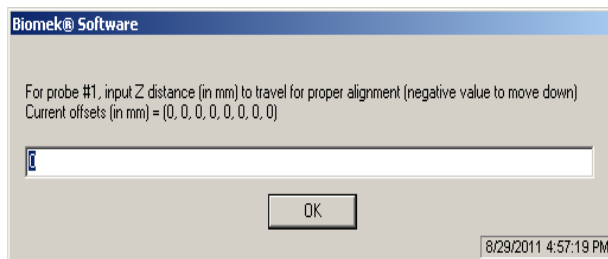

Figure 6. Moving the probe (in mm) up or down for proper alignment.
- 14 The next prompt that opens up (Figure 6) will allow the user to adjust the probe positioning with respect to the Magnabot surface (in mm), one probe at a time. Adjusts should be made carefully, making every effort not to overestimate the distance and cause the tips to crash onto the Magnabot surface. To move the tips down, enter in negative values, e.g., -2, whereas to move the tips up, enter in positive values. This may need to be repeated several times before the tip (it does one probe at the time, although all of the probes move together) is aligned. To determine if the probe (probe #1 in this example) is properly aligned in its z-axis, insert a Post-It note between the P20 tip loaded onto probe #1 and the flat surface of the inverted Magnabot. A slight tug on the Post-It note should be felt as you try to move it out from between the P20 tip and the Magnabot. Click OK when the amount the tips should be moved is entered.